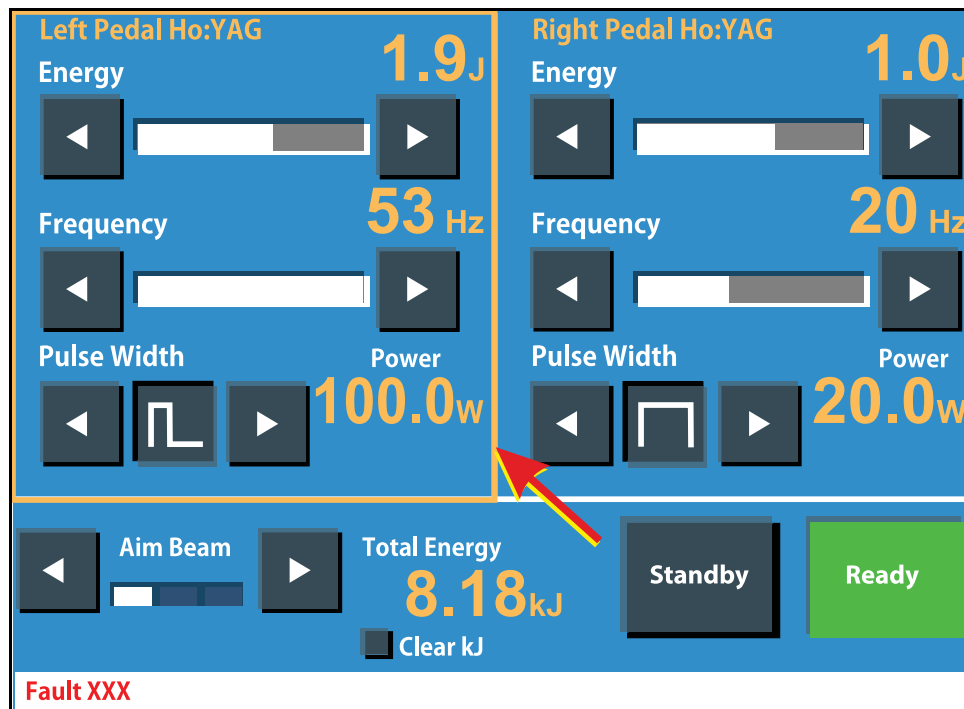

Figure 10: Laser Emission Indicator
- The **Energy**, **Frequency** and **Pulse Width** parameter areas are highlighted by a yellow margin surrounding the applicable pedal on the screen (see figure 10) when the appropriate pedal is pressed, to alert the operator that laser energy is being emitted.